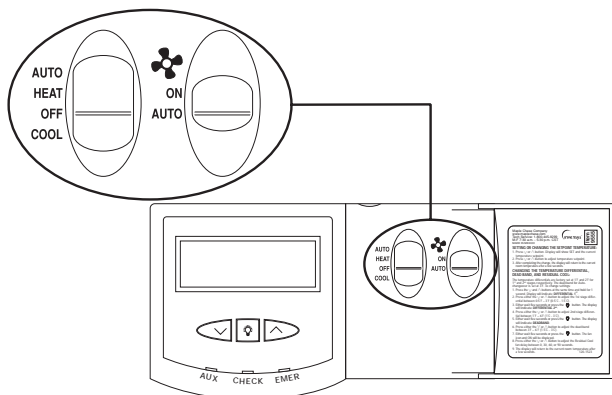

Figure 2
2. Place AUTO-HEAT-OFF-COOL in OFF position (Figure 2).
3. Place -ON-AUTO switch into AUTO position (Figure 2).